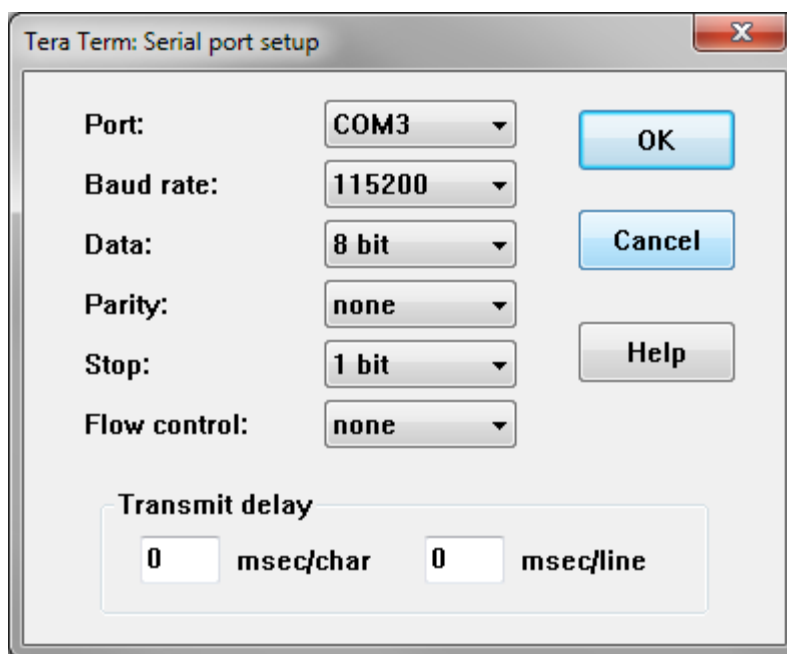

Figure 2.3: Tera Term Serial Port Settings
| Figure 2.3: Tera Term Serial Port Settings | 5 |
4. Verify that the serial port settings are correct (see Figure 2.3 in the previous section).